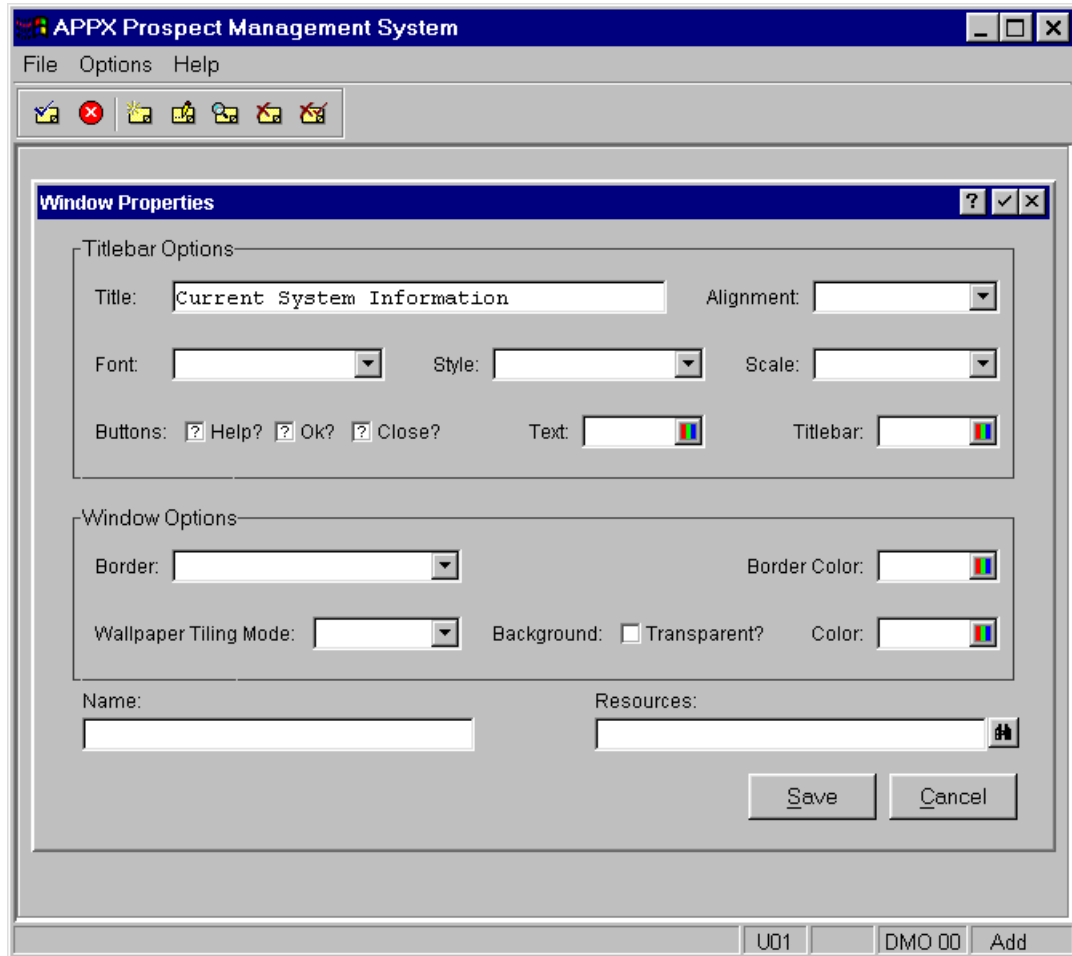

Figure E3.7 – Input Process Titlebar
- *Figure E3.7* shows the Window Properties screen for the image. Enter "**Current System Information**" as the **Title** for the titlebar. Simply specifying the text for the title is sufficient for APPX to know that you want a titlebar displayed for the pop-up input process screen image you are designing.